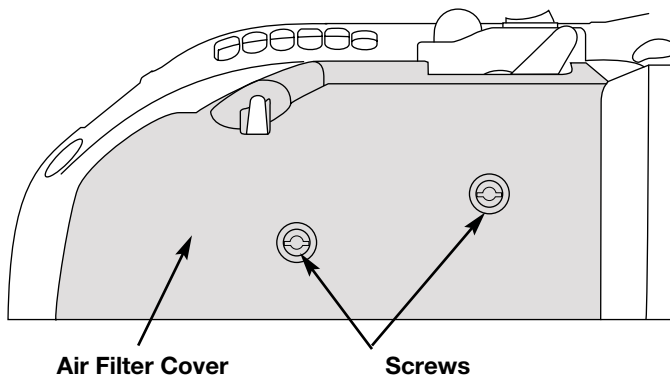
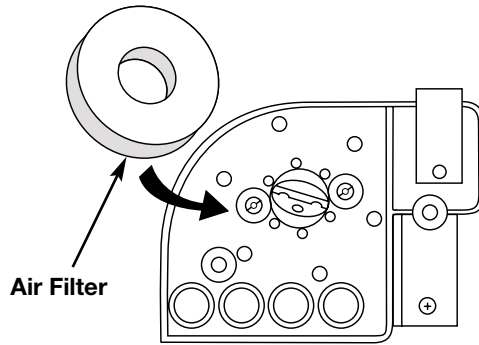

Fig. 16
Fig. 17
2. Remove the screws on each side of the carburetor/air filter cover assembly. Remove the carburetor/air filter cover (Fig. 16).
3. Remove the air filter (Fig. 17).
- Reinstall the filter (Fig. 17, Pg 15)
- Reinstall the carburetor/air filter cover and screws (Fig. 16, Pg 15). **Do not over tighten.**
- Reinstall the filter (Fig. 17, Pg. 15), carburetor/air filter cover and screws (Fig. 16, pg. 15).